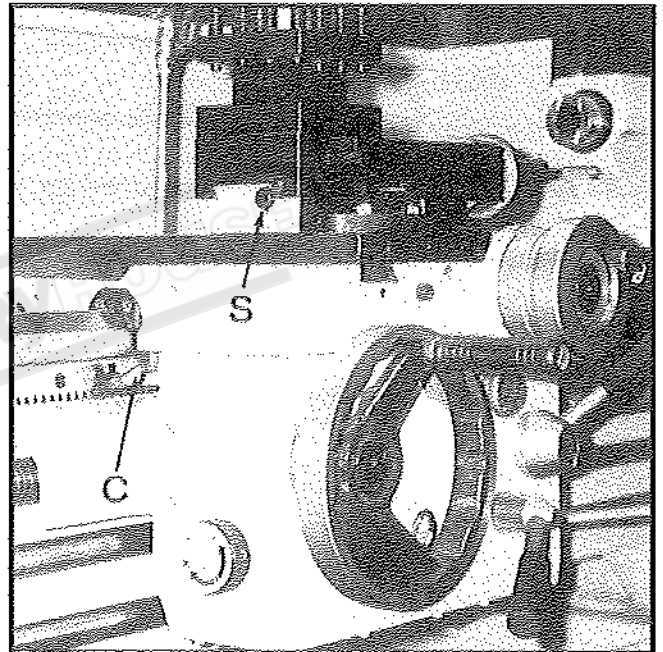

Fig.25
A trip mechanism is incorporated into the apron power drive. Trip loads are preset at the factory. If necessary, it may be re-adjusted by the knurled Knob on the left side of left-hand apron. (Fig.25) (On the right side of the right-hand Apron).
The topside is adjusted by both ends screw (S) only. Tapered gib is fitted in the front wing of the saddle adjusted by screw (C) (Fig.25).